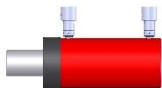

Figure 5.3
- Double-Acting:** If possible, position double-acting cylinders on their side with the couplers facing upward, as illustrated in figure 5.3.